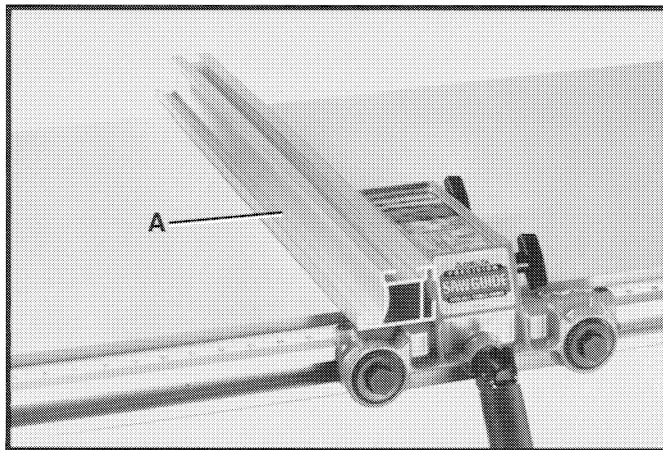

Fig. 71
3. When ripping thin stock, it is sometimes more convenient to use the fence (A) in the horizontal (low) position, as shown in Fig. 71.